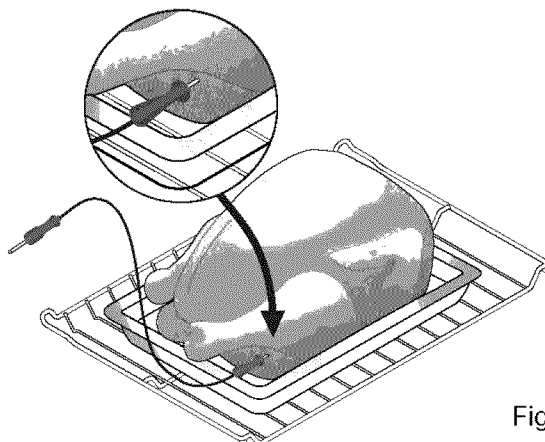

Fig. 1
- For whole poultry or turkey, insert the probe into the thickest part of the inner thigh, below the leg -Fig. 1.